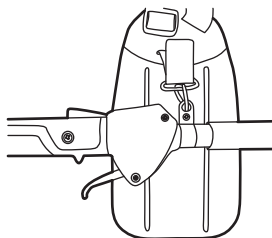

Fig. 14d
4). In case of emergency, release the product from the harness (A8) by opening the securing clip (A10). (See Fig. 14d)